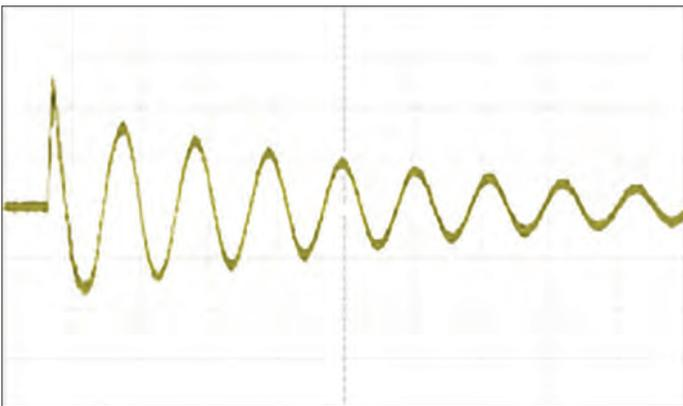
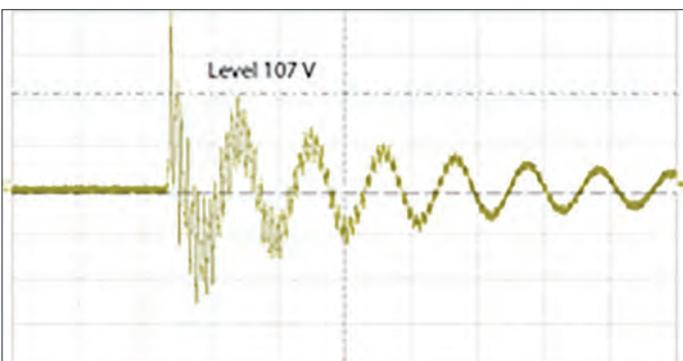

Figure 9. WF3 voltage measured in Case 1 at EUT side.
Figure 10. WF3 voltage measured in Case 3 at AE side.
- In cases 1 and 2, both voltage (Figure 9) and current waveforms are similar to calibrated waveforms. However, in cases 3 (Figure 10) and 4, a significant superposed oscillation can be noticed, confirming that long cable bundles can form resonating circuits. The procedures from DO-357 (Section 22 User Guide) have been utilized in assessing peak values in all cases. Resonance phenomenon is common and requires no additional argumentation for the case of cable bundles.